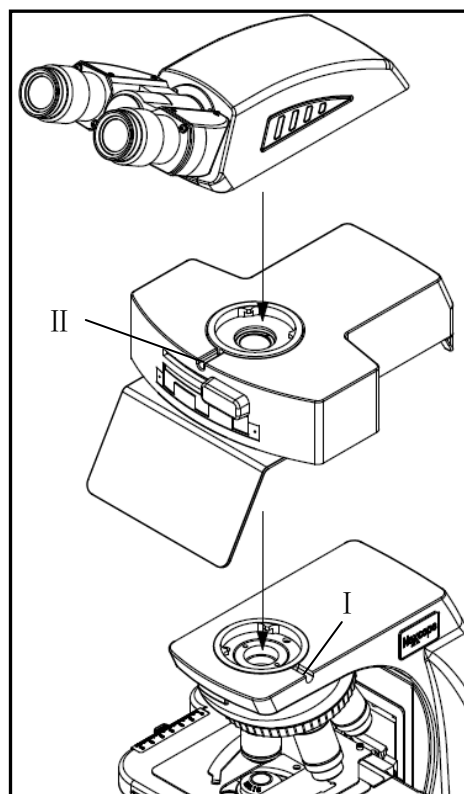

Fig.32
- ◎ Use mask② to prevent ultraviolet light from damaging the retina.
- ◎ The power cord③ behind the fluorescent set is connected to the USB interface④ on the back of microscope, which is powered by the microscope.
6.2 Installing (Fig.32)
1. Mount the fluorescent set according to the assembly path in Fig.32 into the round dovetail of the microscope and tighten the screw I ;